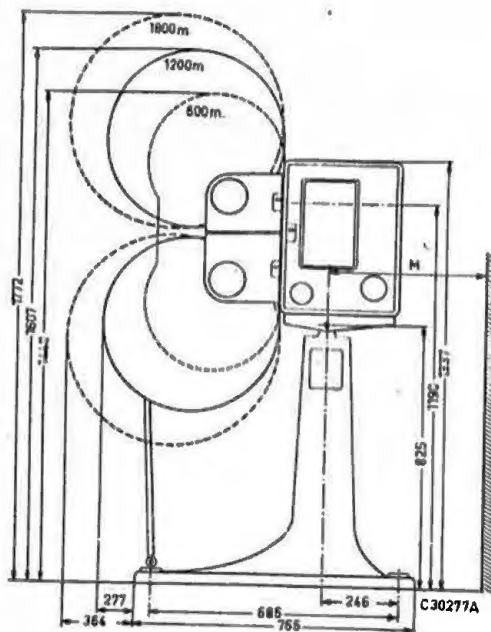

Fig. 1
- Fig. 1 Dimension sketch projector on base with 600 m, 1200 m, 1800 m spool box.